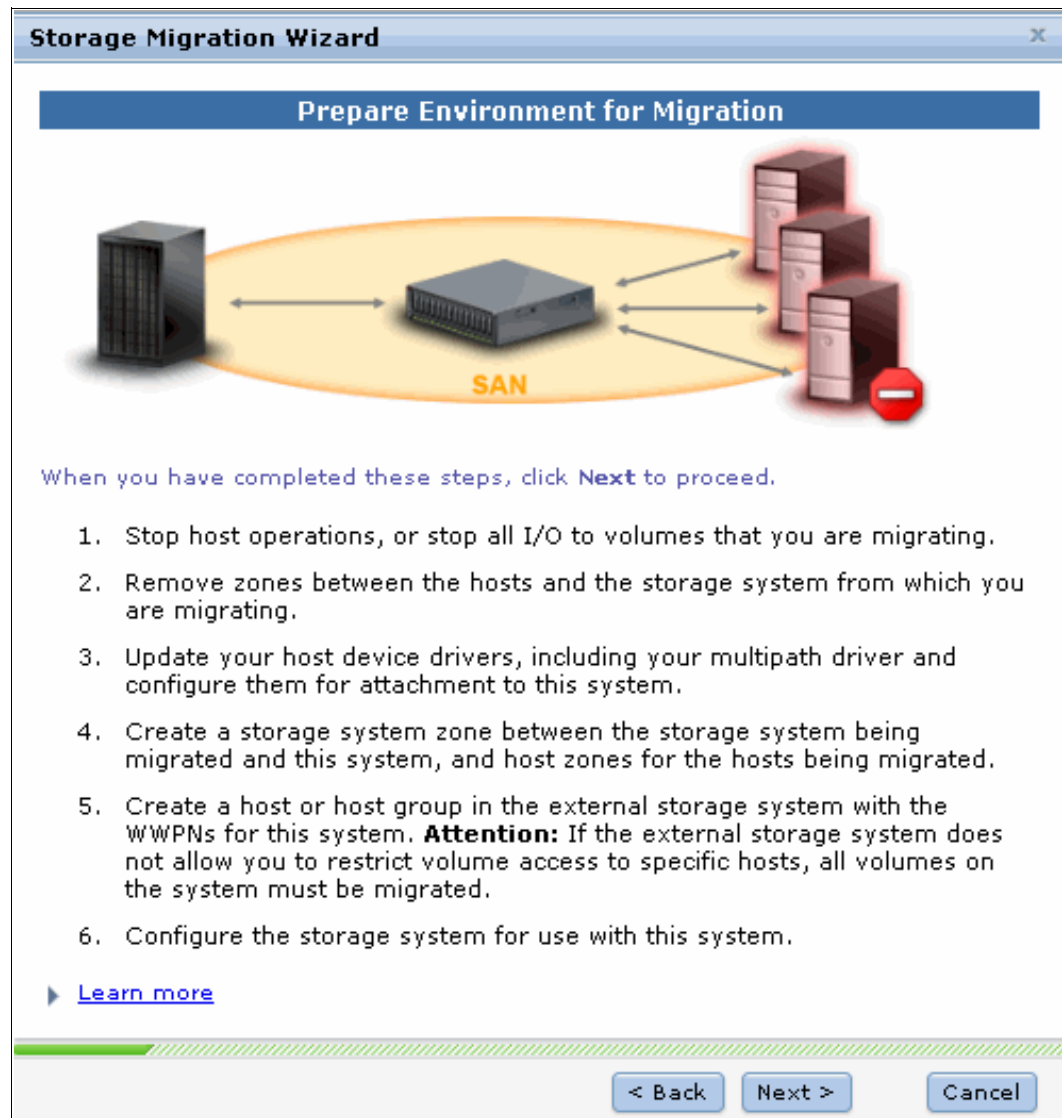

Figure 6-25 Storage Migration wizard: Step 2
5. Follow step 2 the wizard, as shown in Figure 6-25. Complete all of the steps before you continue.